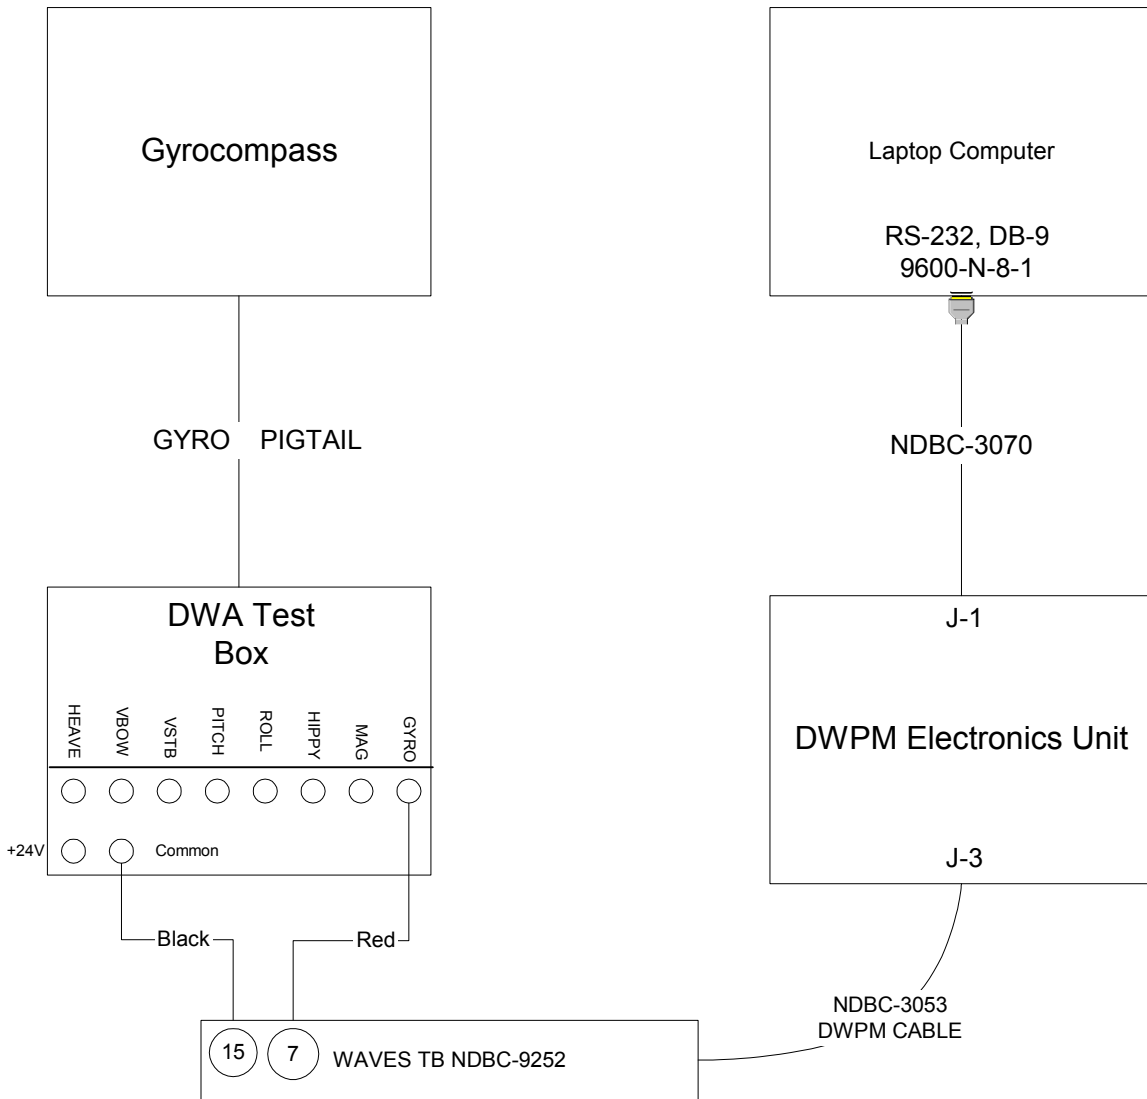

FIGURE 1
- (1) Integrated DWPM buoy including the following:
- (b) Set of Interconnecting Cables (see Figure 1)
- (2) Laptop computer with a terminal emulation program installed
- (3) Universal PC/Payload Interface Cable Assembly (NDBC-3070)
- (4) Gyrocompass (with its gyrocompass to DWPM pigtail interconnecting cable, NDBC-3053)
- (5) DWA Test Box
7.2.1 Connect the gyrocompass, DWA Test Box, and DWPM as shown in Figure 1.
7.2.2 Connect the laptop's serial port to the DWPM electronics unit connector J1, using the Universal Payload Interface Cable (NDBC-3070), as shown in Figure 1.